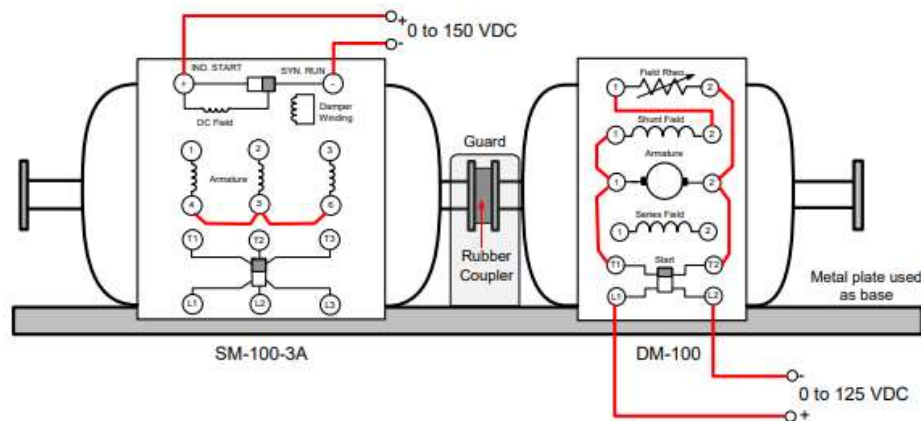

Fig. 8. The terminal panels of the alternator and terminal connections
1. Set the motor and generator on the metal base and couple the axes together through the double-head rubber coupler (see fig. 8). Use the guard around the coupling head. Spin the machine shaft manually to ensure the alignment is smooth. Turn the plate screw tight to preserve the alignment;
3. Configure the terminal panel of each machine as shown in fig. 8. Make sure the console power is turned off. Do not connect to source or instruments yet. (a) Connect the dc motor as shunt (self- excited); adjust the field resistance to the minimum value; set the Start